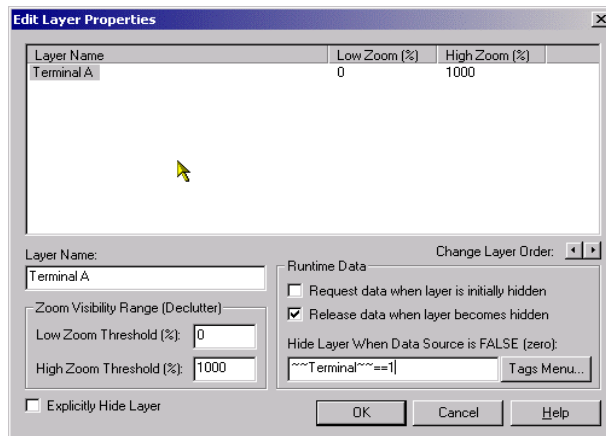

Figure 5.21
- 4 The **Edit Layer Properties** window should now look like **Figure 5.21**.